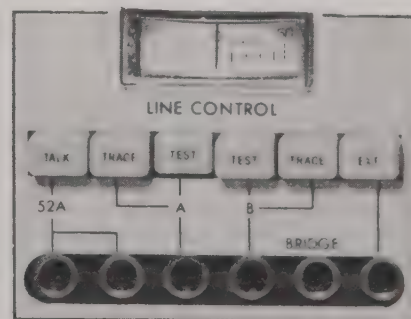

Fig. 6—Line Controls
3.07 The line control is used to select the placement of test calls on channel A and/or B lines (see Fig. 6). Normally, the two TEST pushbuttons are engaged for testing on both channels. If all lines are idle when two-channel testing is selected, test calls are alternated between channel A and channel B. (Busy lines and empty rear-panel circuit selector jacks are bypassed.) If call completion data for only one channel is desired, engage the appropriate TEST A or B pushbutton.